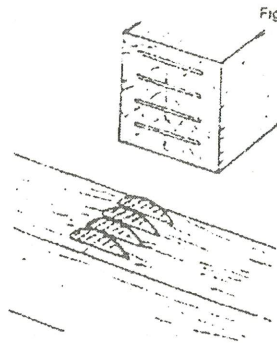

Fig.36
6. Insert plates dry to check for alignment and fit. If satisfactory apply good quality carpenter's glue to all slots. Insert plates into one side and press together (Fig.36)